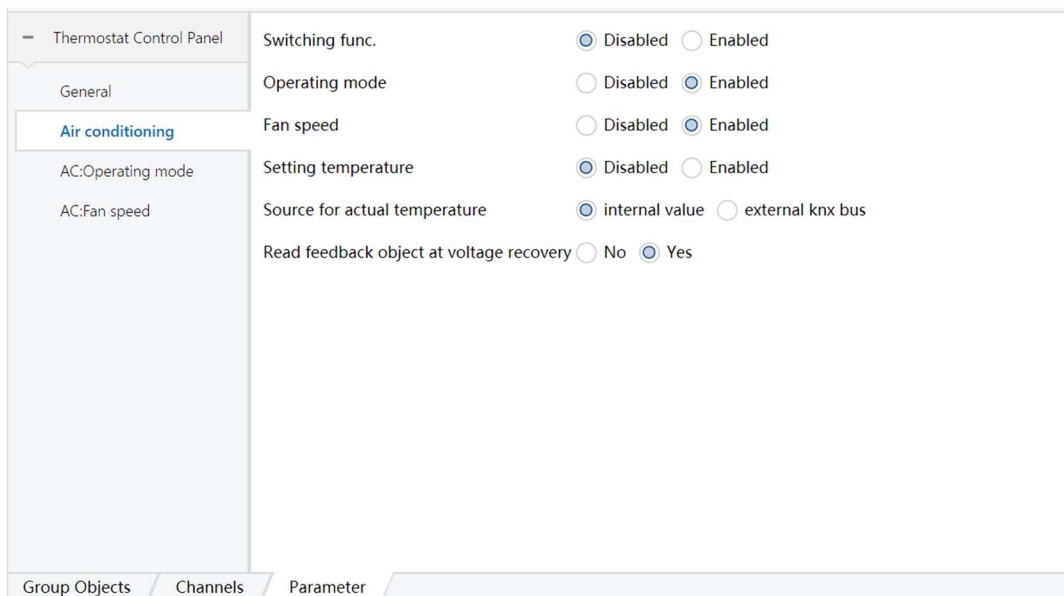

Figure 6.2.5
3) When **Enabled** is selected for Fan speed, the options in the red box are shown as in Figure 6.2.5.